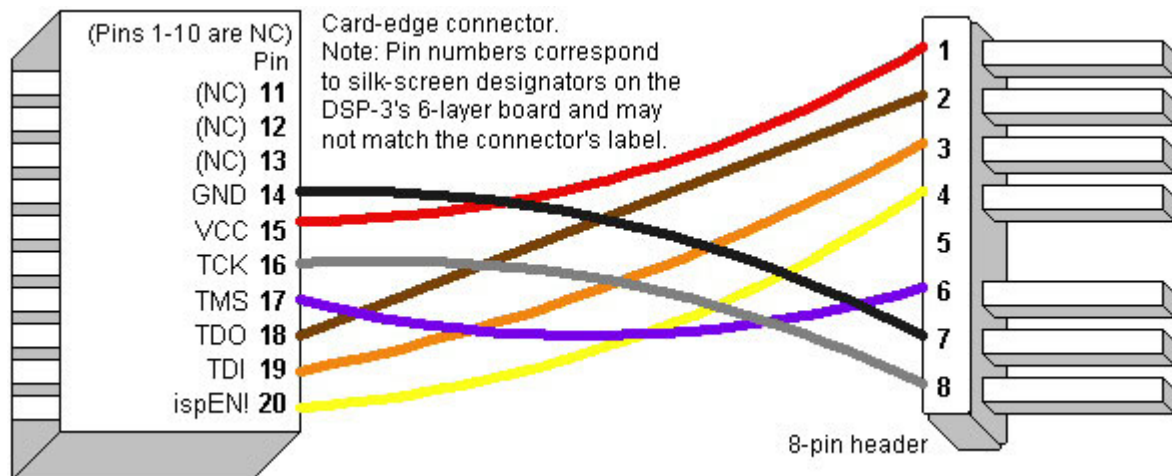

Figure 1. Card-edge to 8-pin header adapter.
- Personal computer (PC) with Windows (98/2000/NT) operating system and Lattice Semiconductor ispVM™ System software (downloadable from Lattice Semiconductor's web site: <http://www.latticesemi.com>) and QSC Signal Manager software installed
- Card edge to 8-pin header adapter (Figure 1)